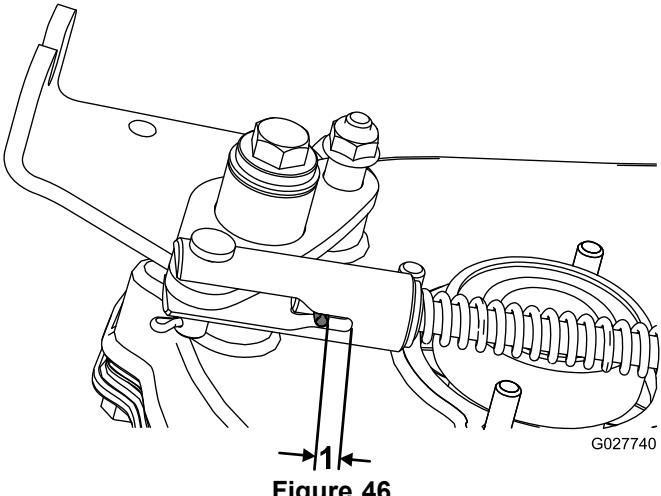

Figure 46
2. Measure the distance from the roll pin to the end of the slot (Figure 46); if it is less than 0.8 mm (1/32 inch), adjust the clutch according to the steps below.
6. Engage the traction control lever and measure the distance between the roll pin and the end of the slot (Figure 46). The distance should be between 6 mm (1/4 inch) to 9.5 mm (3/8 inch).